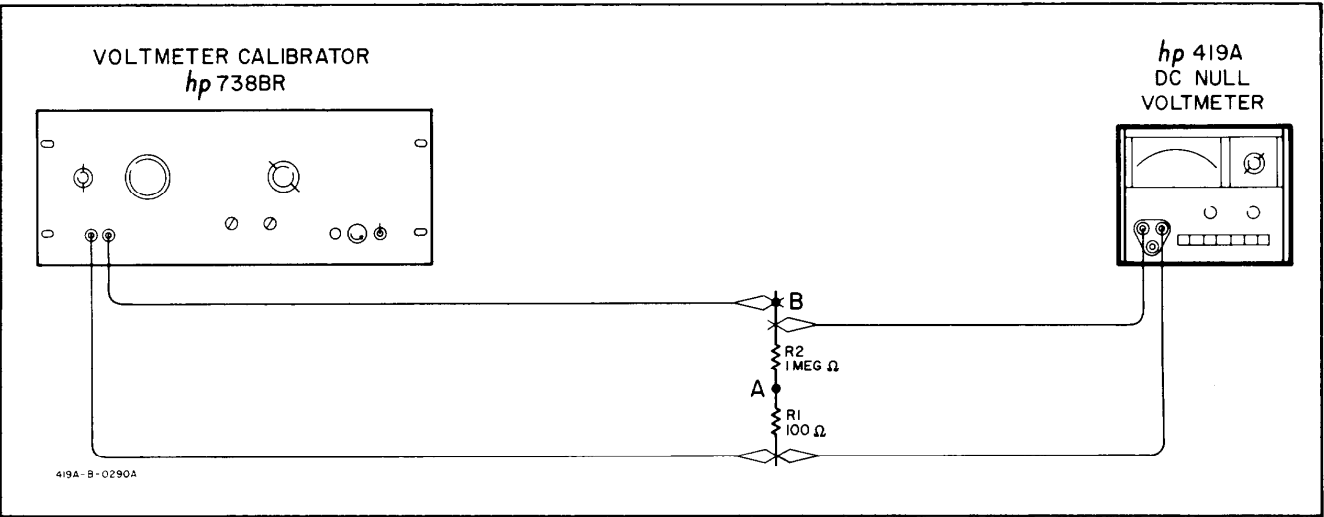

Figure 5-1. Voltmeter Accuracy Performance Test Setup
5-8. The voltmeter accuracy performance test setup is illustrated in Figure 5-1. A voltmeter calibrator (-hp- Model 738BR), a 100 Ω resistor (-hp- Part No. 0811-0398), and a 1 M Ω resistor (-hp- Part No. 0811-0473) are required for this test.
- a. Connect test setup illustrated in Figure 5-1.
- Construct test setup illustrated in Figure 5-1; turn voltmeter calibrator dc output off and set for 30 mV output; connect 419A + INPUT terminal to Point A.